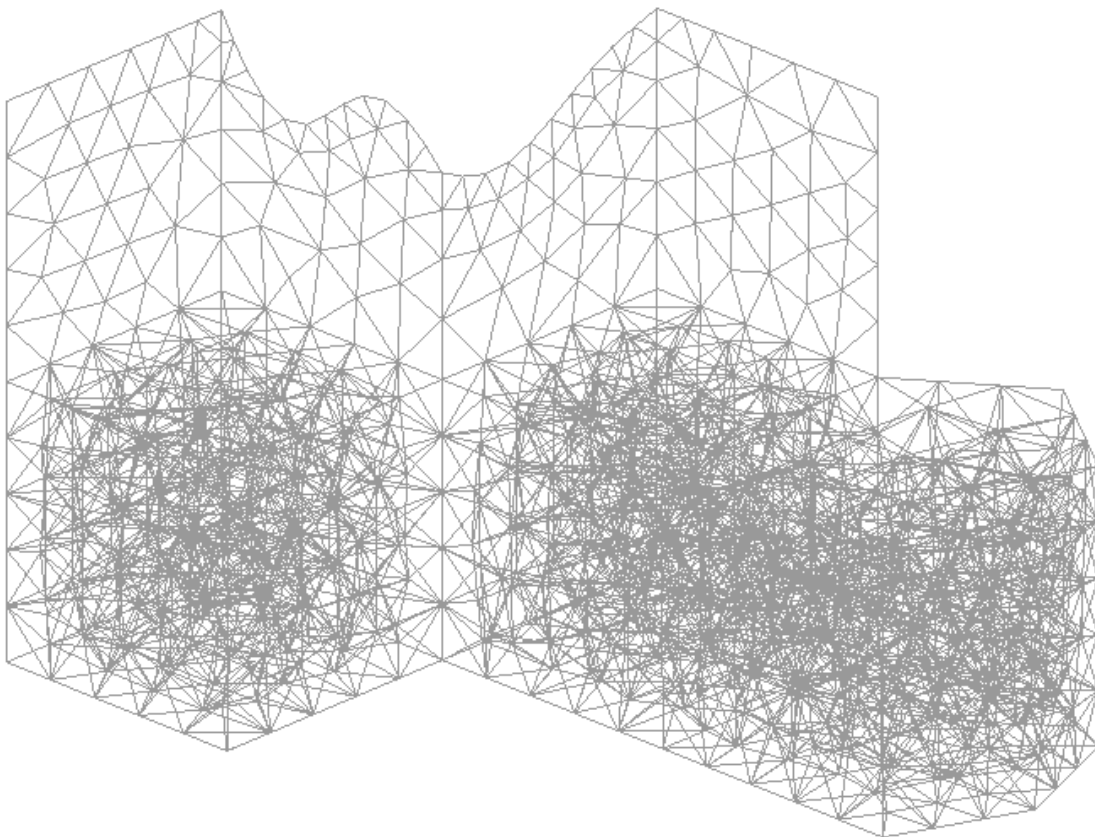

Figure 2. Generating the mesh by default.
- 6 . The result is the mesh in Figure 2. There are various surfaces and volumes. By default, mesh generation in GiD obtains unstructured meshes of triangles on surfaces and tetrahedra on volumes.